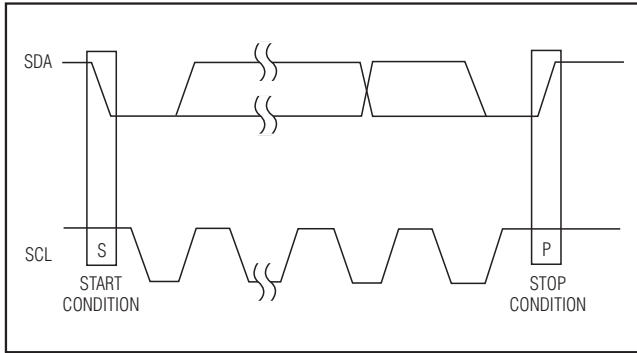

Figure 6. Start and Stop Conditions
Each transmission consists of a START condition sent by a master, followed by the MAX6621 7-bit slave address, plus an R/W bit, one or more data bytes, and finally a STOP condition (Figure 6). To write to a MAX6621 register, a write transmission consists of a START condition, followed by the MAX6621 7-bit slave address plus R/W = 0, a register address byte, one data byte, and finally a STOP condition. To read from a MAX6621 register, a combined write and read transmissions are required. The first write transmission consists of a START condition, followed by the MAX6621 7-bit slave address plus R/W = 0, a register address byte, and finally a STOP condition that sets the register to be read. The second read transmission consists of a START condition, followed by the MAX6621 7-bit slave address plus R/W = 1, one or more data bytes, and finally a STOP condition that reads the data from the
Both SCL and SDA remain high when the interface is not busy. A master signals the beginning of a transmission with a START (S) condition by transitioning SDA from high to low while SCL is high. When the master has finished communicating with the slave, it issues a STOP (P) condition by transitioning SDA from low to high while SCL is high. The bus is then free for another transmission (Figure 6).